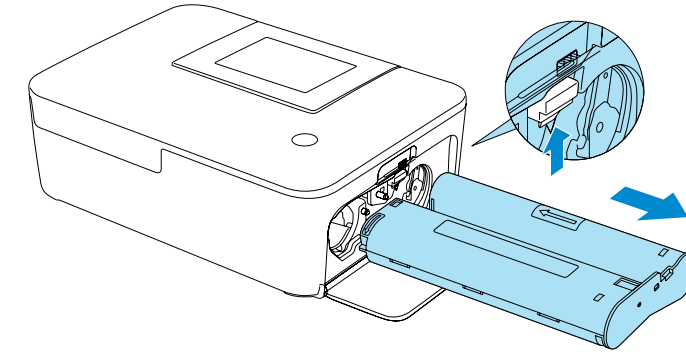

Fig. 8.3. Replacing toner cartridges
3. To remove the cartridge it is necessary to press the lock indicated in Figure 8.3 and replace it. The new cartridge should be installed until the lock clicks. When the work is finished, return the service compartment of the robot to its original position by pushing it inside the robot.